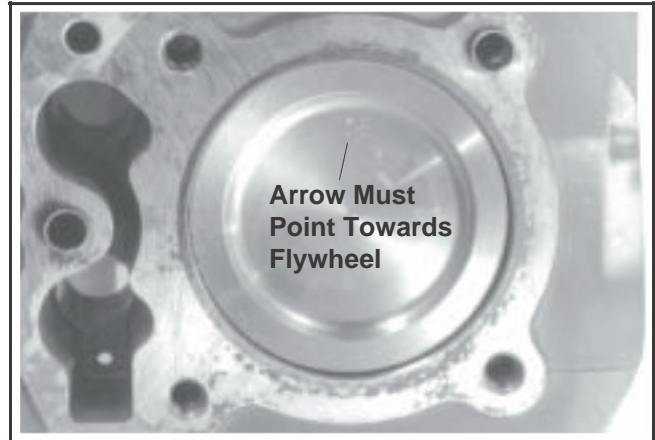

Figure 11-7. Piston Installation Identifier.
- Place the ring compressor on the top surface of the crankcase and make certain it is seated down around the entire circumference. The **FLY** arrow on the piston should point toward the flywheel side of the crankcase. See Figure 11-7. Use a soft, rubber grip hammer handle and tap the piston/connecting rod into the bore. The first tap should be rather firm, so the oil ring moves from the compressor into the bore in one smooth, quick motion. Otherwise the oil ring rails may spring out and jam between the ring rails and the top of the bore.